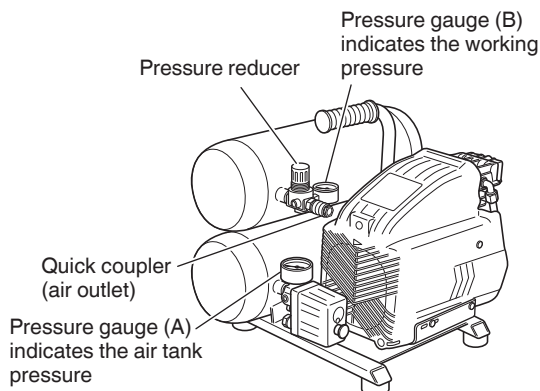

Fig. 7
A pressure gauge (B) is provided to know when the required pressure is reached, lock the knob by pushing it down firmly (Refer to Fig. 7).